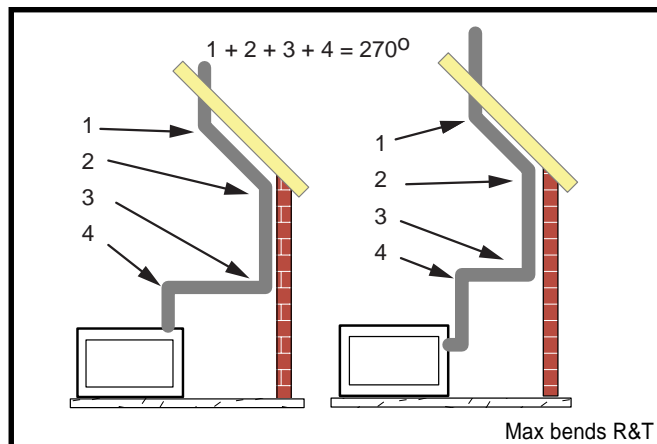

Fig. 32 Maximum elbow usage
- The maximum angular variation allowed in the system is 270° (Fig. 32).